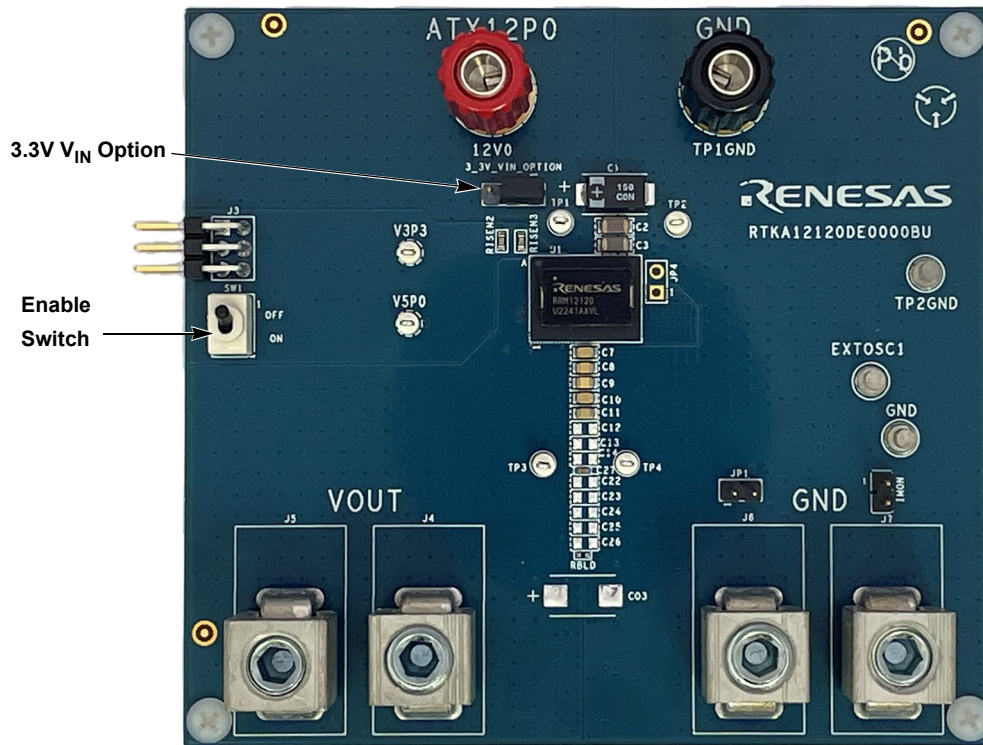
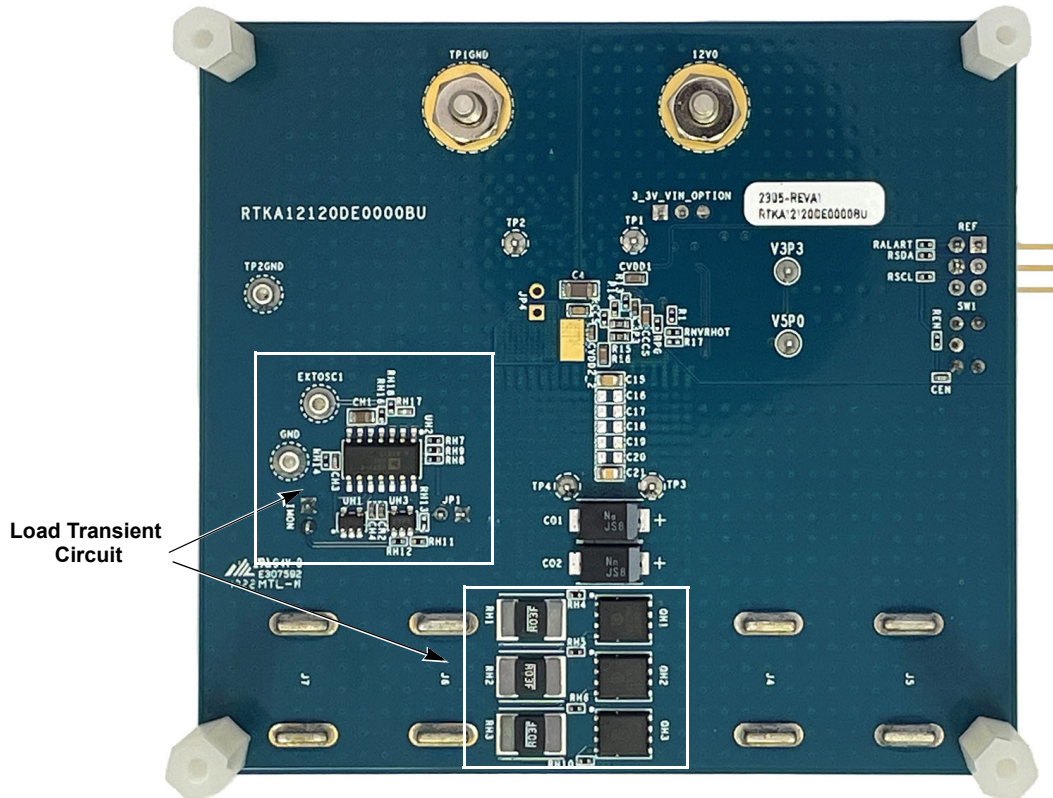

Figure 6. Top of Board
Figure 7. Bottom of Board
The RTKA12120DE0000BU evaluation board provides the peripheral circuitry to evaluate the feature set of the RRM12120. The evaluation board includes several connectors, test points, a mechanical switch and jumper that simplify the evaluation of the module. When pin Enable is selected in the PowerNavigator, the converter is enabled and disabled by switching the EN pin as shown in Figure 6. Connecting a jumper between pin 1 and 2 of the 3\_3V\_VIN\_OPTION, allows using VIN to power the internal analog 5V and 3.3V supplies (as shown in Figure 6). The RTKA12120DE0000BU evaluation board has a built-in load transient test circuit which can be used to test the load transient response of the RRM12120 (see Figure 7). Figure 6 and Figure 7 show the photograph of the top and bottom of the RTKA12120DE0000BU evaluation board.
1. Disable the module by turning the SW1 switch to the OFF position, shown in Figure 6.
To configure for using external 5V/3.3V supplies, power down the board and remove the jumper on 3\_3V\_VIN\_OPTION. Apply 5V to the V5P0 test point. Apply 3.3V to the V3P3 test point. See locations of the 3\_3V\_VIN\_OPTION, V3P3 and V5P0 test points in Figure 6.